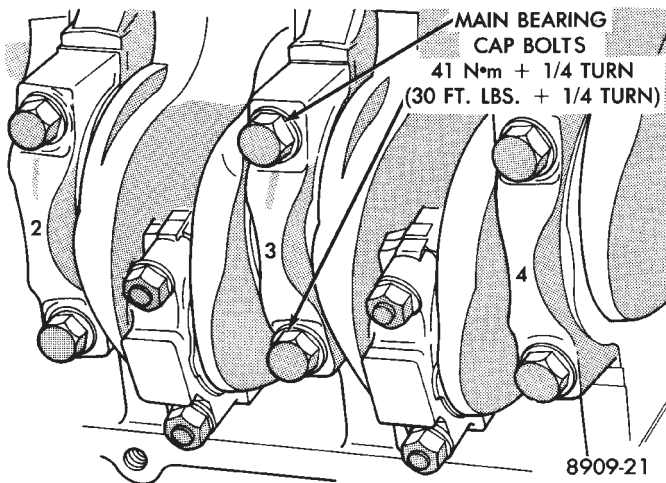

Fig. 14 Installing Main Bearing Caps
(7) Before installing the bolts the threads should be oiled with engine oil.
(8) Install both bolts in each cap finger tight, then alternately torque each bolt to assemble the cap properly.
(9) Tighten the bolts to 41 N•m plus 1/4 turn (30 ft.lbs. plus 1/4 turn). (Fig. 14)